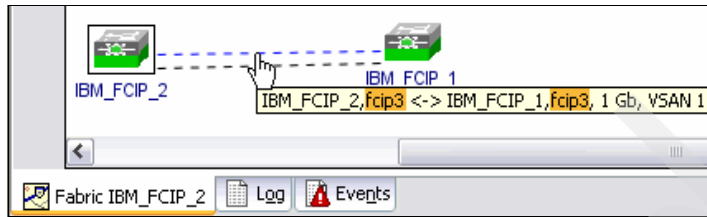
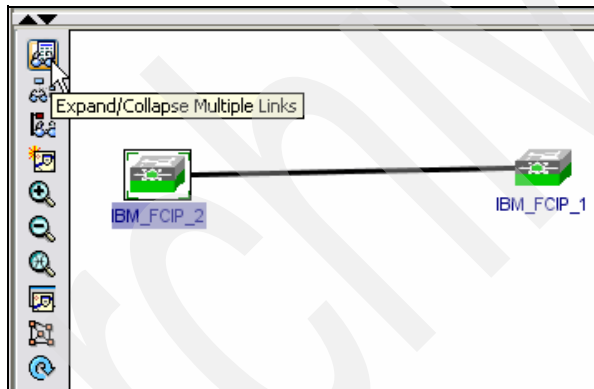

Figure 12-21 FM map display of FCIP interface fcip3
Figure 12-22 Multiple Links view
In Figure 12-21, we place the cursor over the other FCIP link and the message window indicates that it is fcip3.
**Note:** If your window displays a thicker and darker line for the link, as shown in Figure 12-22, click the icon to Expand/Collapse the links. You will then see the links represented by two individual lines, as shown in Figure 12-21.